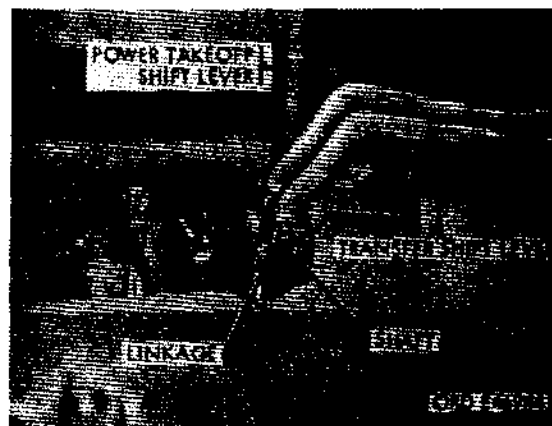

Figure 180. Transfer and power takeoff control levers.
- (7) Remove cotter pin and shaft securing transfer and power takeoff control levers to linkage and remove control linkage (fig. 180).
- (8) Remove electrical wiring harness from cab (para. 23).